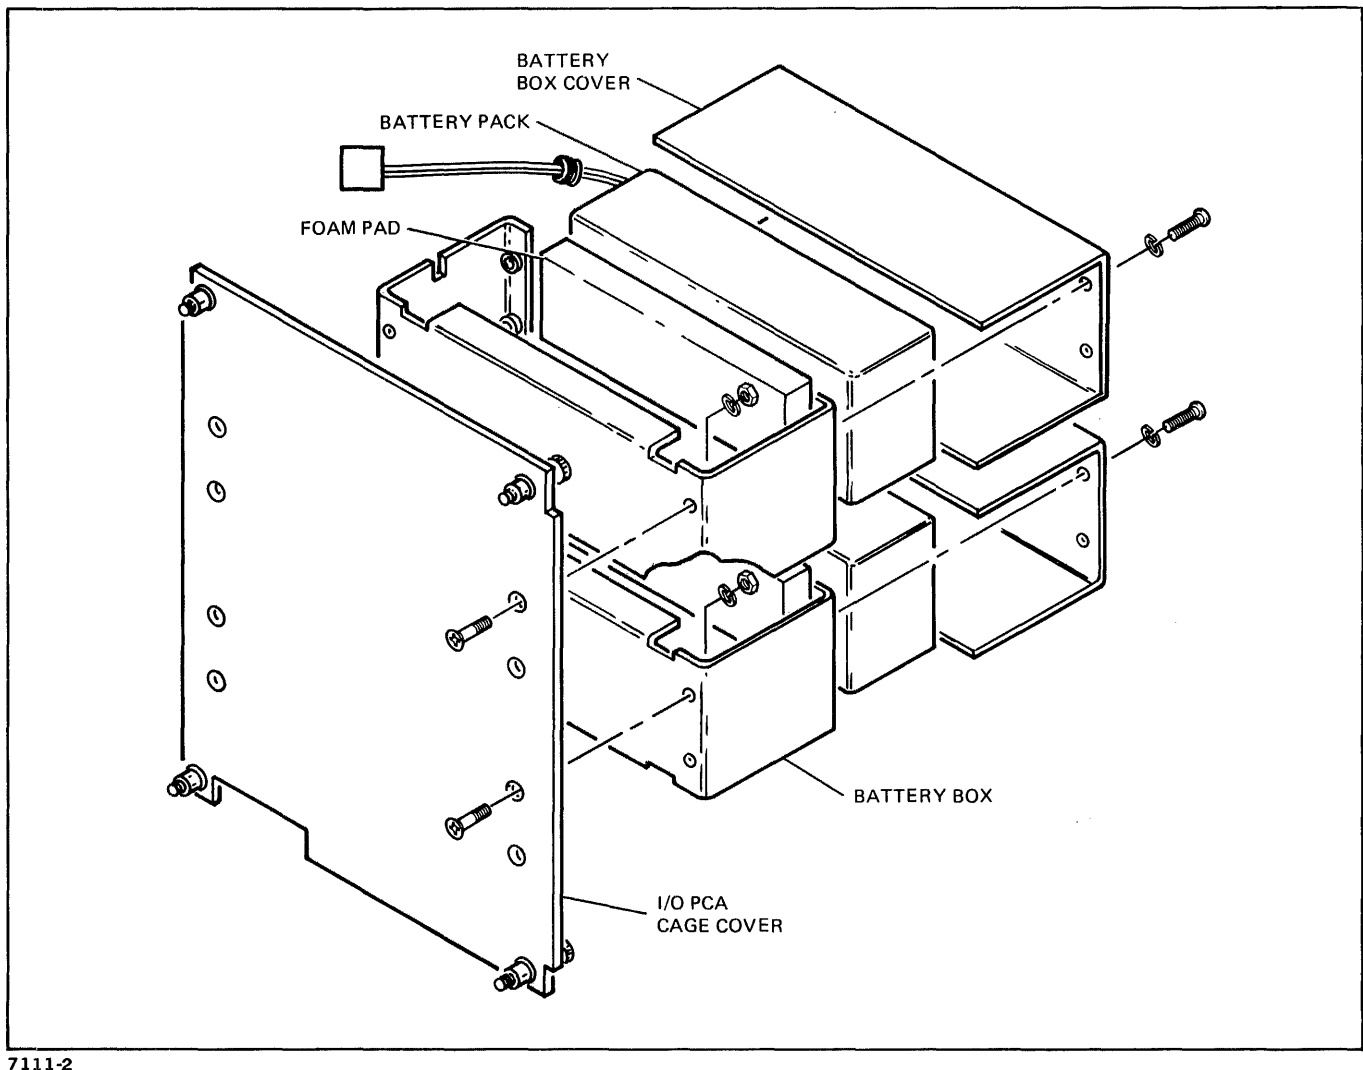

Figure 2. Battery Installation in Computer
- c. Remove I/O PCA cage cover by loosening the four captive screws. (See figure 2.)